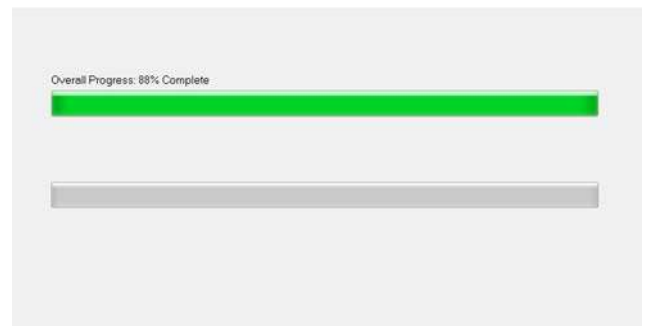

Figure 10. Software Installation Progress Window
6. After clicking **Next >>**, the pop up window shown in Figure 10 opens and displays a bar showing the software installation progress.